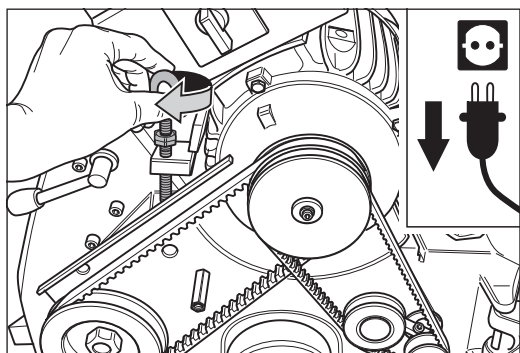

Fig. 34 Put the V-belts back on and tighten them with the tensioning bolt at the motor.
- 2 Put the V-belts back on and tighten them with the tensioning bolt at the motor (Fig. 34).